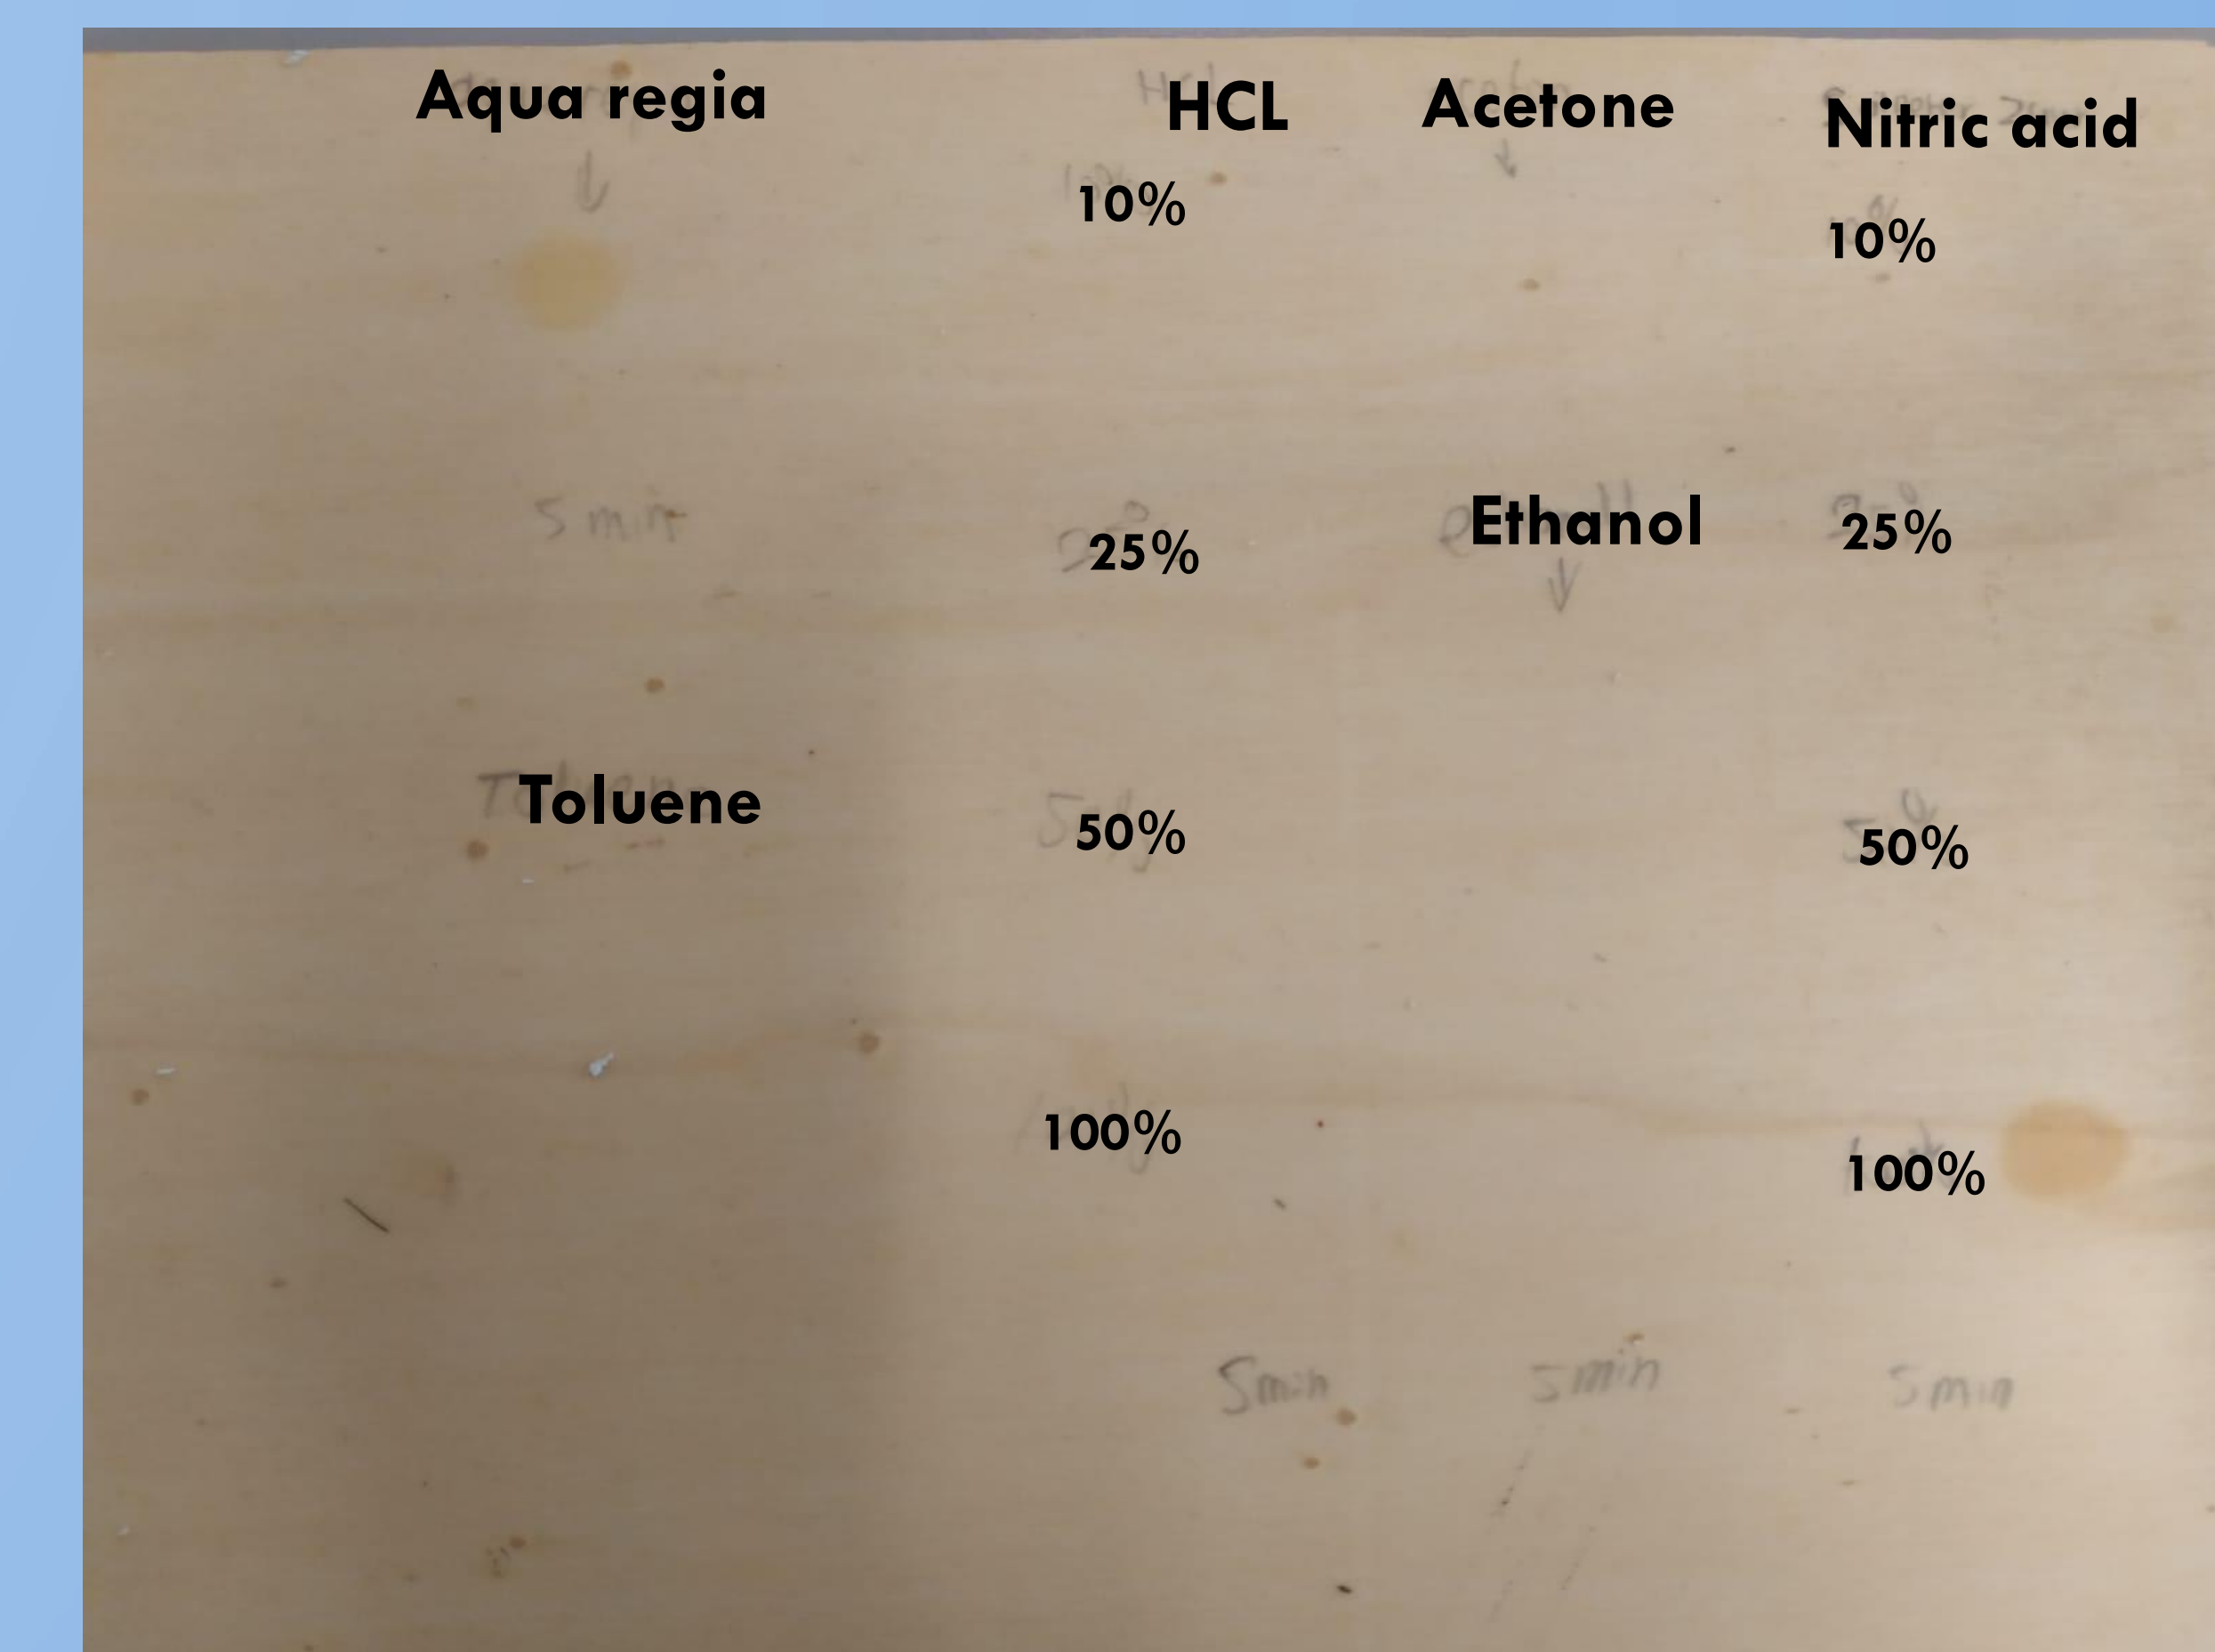

Figure 4: Coated test wood after testing the chemical resistance. Visible discolouration at 100% nitric acid and aqua regia spots.
- Aquaregia and 100% nitric acid damage surface (see figure 4)